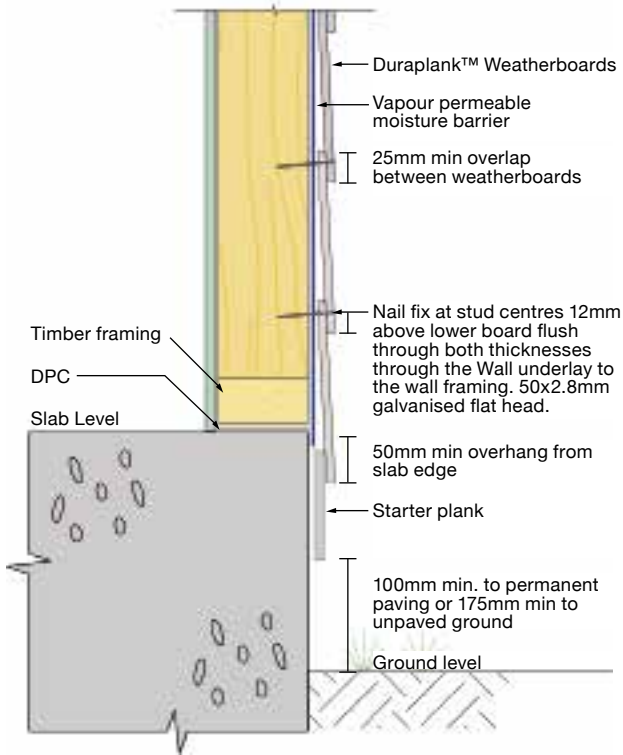

FIGURE 7 // DURAPLANK™ LAP GAUGE
- The plank must overlap a minimum of 25mm, and before fixing the second row of planks calculate the overlap so a near full width of plank will finish at the top of the building. Using a piece of timber or plank, fabricate a lap gauge to ensure that the plank coverage is uniform. See figure 7.